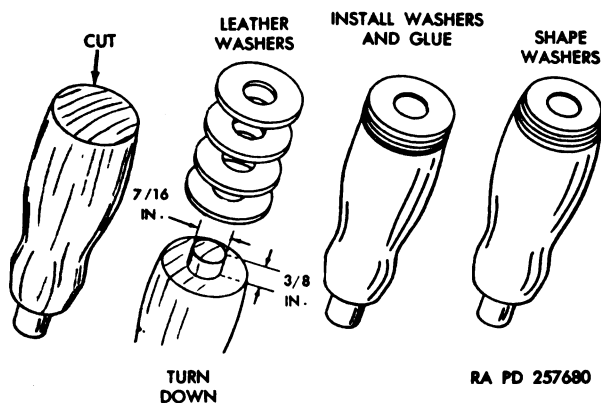

Figure 210. Repairing mushroomed handle.
- (a) Cut the head of the handle off square (fig. 210) with a saw.